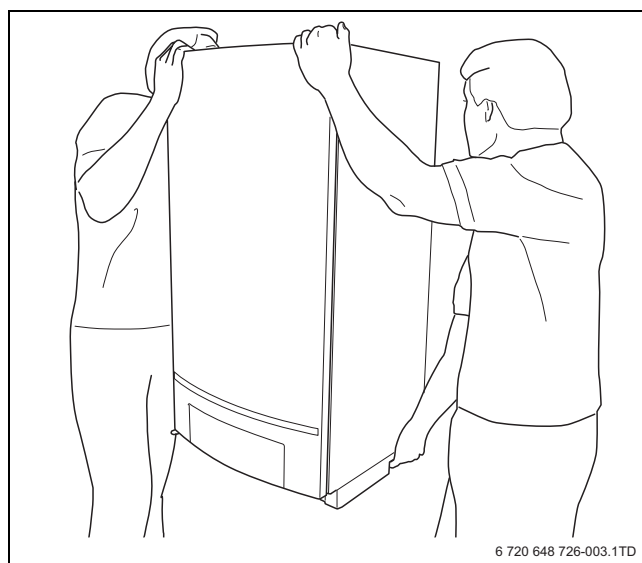

Fig. 3 Lift and carry the boiler correctly
To lift and carry the boiler, place one hand at the bottom of the boiler and the other hand on its front (→ fig. 3).
- ▶ With two people, lift the boiler by holding it by its back and by the transport rail at its bottom and install it on the wall bracket (→ fig. 3, page 15).